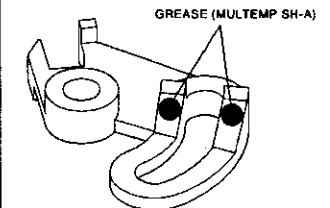

Fig. 2-39-2
- 1 Apply GREASE (MULTEMP SH-A) [859D055080] to the area of the new SHIFT LEVER shown in Fig. 2-39-2.